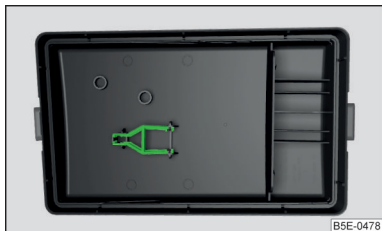

Fig. 235
- Remove the plastic clip under the cover of the fuse box in the engine room » Fig. 235 on page 226.
- Remove the plastic clip under the cover of the fuse box in the engine room » Fig. 235 on page 226 .